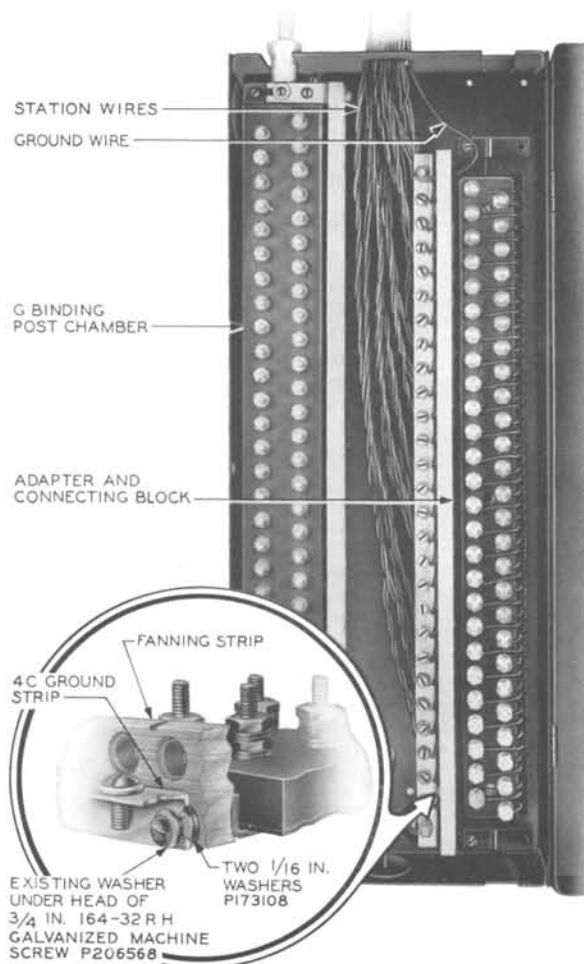
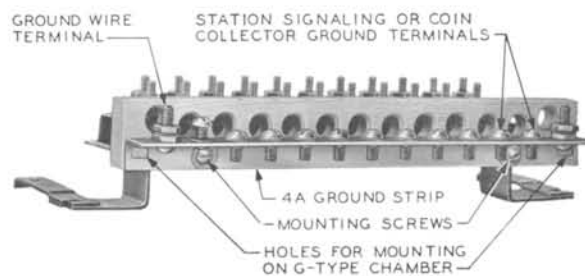

FIG. 6—TERMINATION OF GS-TYPE INSIDE WIRE
FIG. 11—METHOD OF INSTALLING 4-TYPE GROUND STRIP
- The method of terminating GS-type inside wire at a GC-type cable terminal is shown in Fig. 6.
**5.06** The 4-type ground strips are installed on the fanning strips of the 102-type adapters and G-type binding post chambers as shown in Fig. 11. The 4-type ground strip is attached with the same screws used to secure the fanning strip to the 102-type adapter or G-type binding post chamber, except where additional clearance is desired, as shown in Fig. 6.